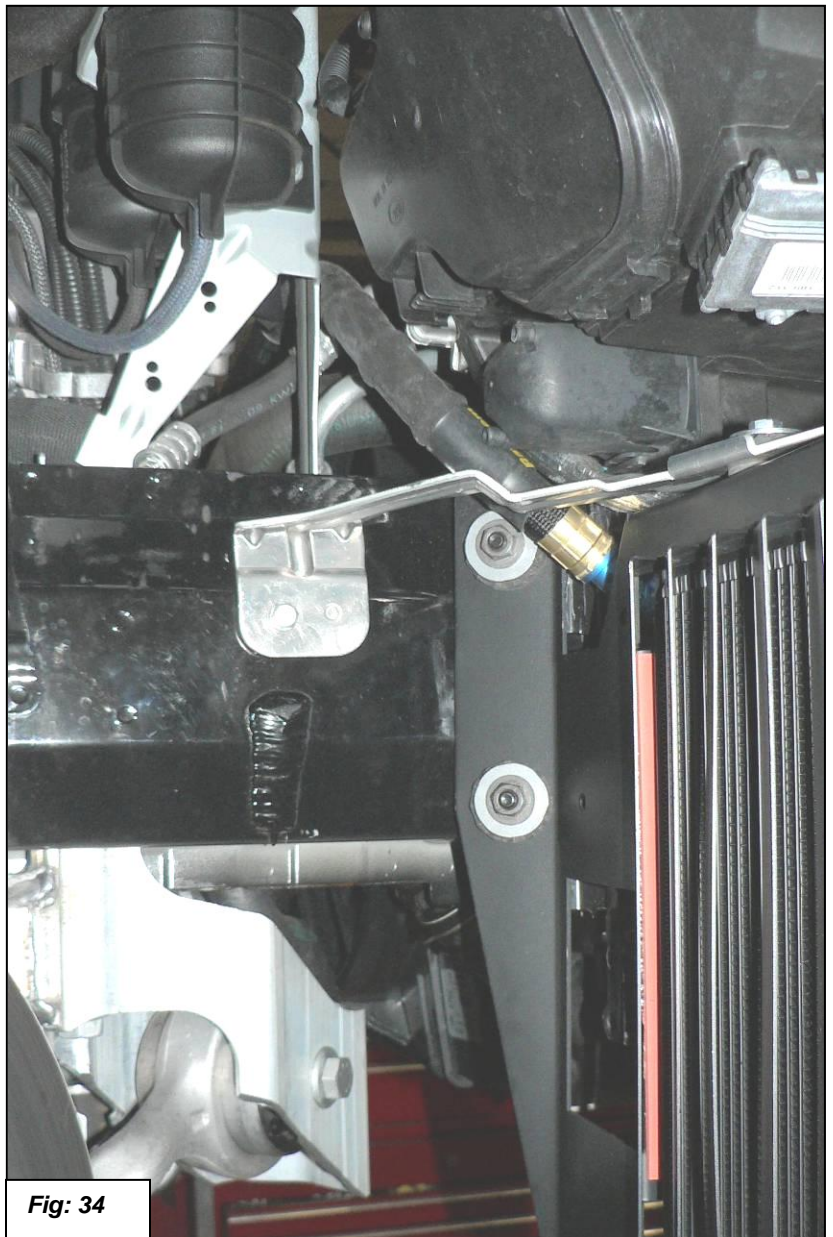

Fig: 34
39. Feed the oil line in between the headlight and the bracket as shown in figure 34. Attach the oil cooler assembly to the mounts as shown with the two stock 8mm nuts and the 6mm bolt. Torque nuts to 20Nm (15ft-lbs.) and bolt to 8Nm (6ft-lbs.). See figure 34.